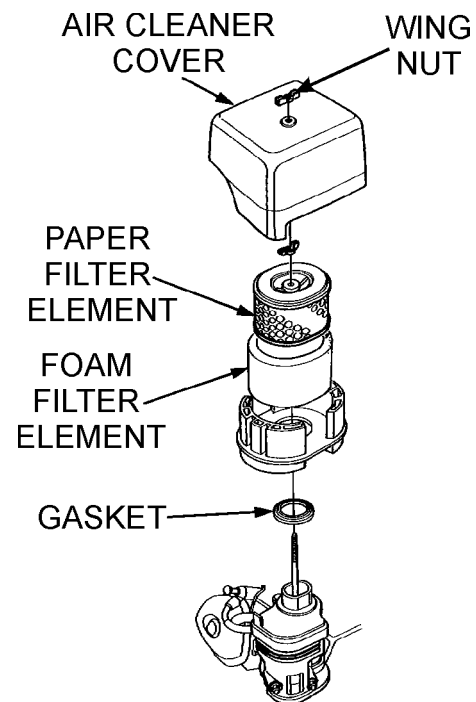

Figure 25. Engine Air Cleaner
- Remove the air cleaner cover and foam filter element as shown in Figure 25.
- Tap the paper filter element (Figure 25) several times on a hard surface to remove dirt, or blow compressed air [not exceeding 30 psi (207 kPa, 2.1 kgf/cm2)] through the filter element from the air cleaner case side. **NEVER** brush off dirt. Brushing will force dirt into the fibers. Replace the paper filter element if it is excessively dirty.